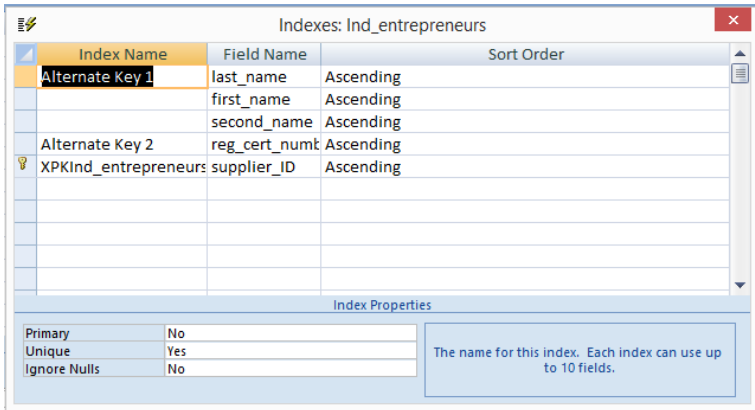

Figure 36
- Select “Design” in the main menu, and then select “Indexes”. Appeared window shows the list of indexes of this table (figure 36). As it is shown, there are two alternate keys despite of the PK. These alternate keys are also unique.